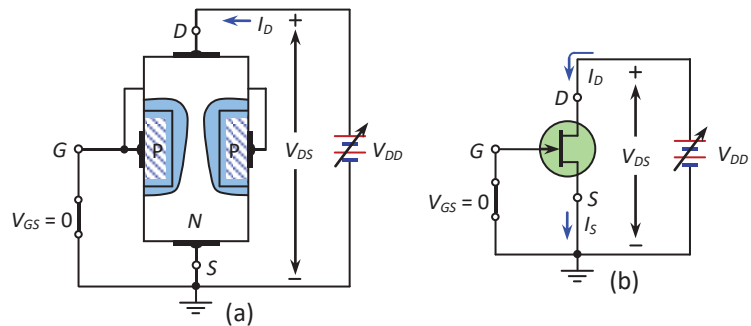
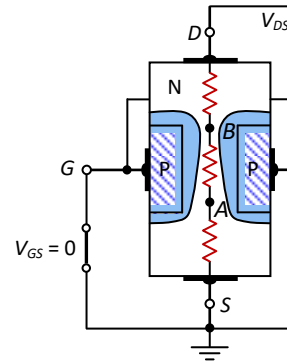

Fig.4-4: Biasing circuit of an N-channel JFET: (a) Block diagram, and (b) Schematic diagram
Fig.4-5:  $V_{DS}$  is distributed along the resistance of channel
opposite. The drain of an N-channel JFET has to be connected to higher potential and the source to the lower potential as in Fig.4-4 (i.e.,  $V_{DS} > 0$  V). The gate terminal is never forward biased. It is either reverse biased ( $V_{GS} < 0$  V) or connected to ground ( $V_{GS} = 0$  V). Therefore, the operation of JFET will be explained for two conditions.
For proper biasing of N-channel JFET, a potential difference  $V_{DS}$  is established by connecting the positive terminal of an external voltage source ( $V_{DD}$ ) to drain, and the negative terminal to ground. The source terminal (S) is connected to ground. To make  $V_{GS} = 0$ , gate terminal (G) is also connected to ground as shown in Fig.4-4. As there exists a continuous N-type channel between the drain and source, electrons flow from source to drain, and the conventional current flows from drain to source and is limited by the resistance of the channel. This current is denoted as  $I_D$ . The junctions between the P-type gates and the N-type channel will be reverse biased as P-type gates are connected to ground. To understand this, let us represent the continuous resistance of the channel by three equal discrete resistors as shown in Fig.4-5. The potential at point A will be positive with respect to ground and its value will be  $\frac{1}{3}V_{DS}$ . As the gates are connected to ground, the  $\frac{1}{3}V_{DS}$  voltage will reverse bias the PN junction between the P-type gates and N-type channel. As the N-channel is lightly doped and P-type gates are highly doped, the width of the depletion layer will increase more in the channel than in the gates. The potential at point B will be  $\frac{2}{3}V_{DS}$ . Therefore, the PN junction at point B will be reverse biased by  $\frac{2}{3}V_{DS}$ . In this way, the reverse bias voltage will gradually increase from source to drain. So, the width of the depletion layer will be higher at the drain side than the source side. Thus, the depletion layer in the channel will achieve a shape called **wedge shape**, as shown in Fig.4-5.